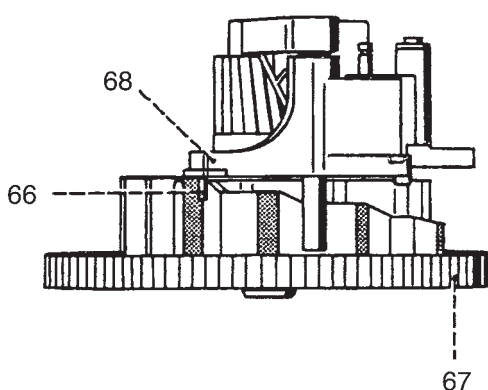

Fig. 24
When the automatic module is switched off, lifting pin 66 should be exactly centered in the groove (fig. 24).
- Turn adjustment dial 67, until lifting pin 66 is exactly centered in the groove (fig. 24).